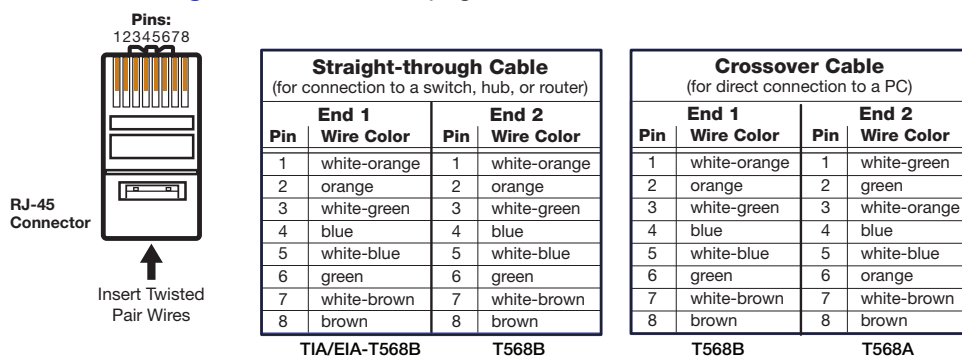

Figure 10. Wiring for Ethernet Control
- Use a crossover cable or a straight-through cable for connection directly to a PC. Wire the connector as shown in figure 10 on the next page.